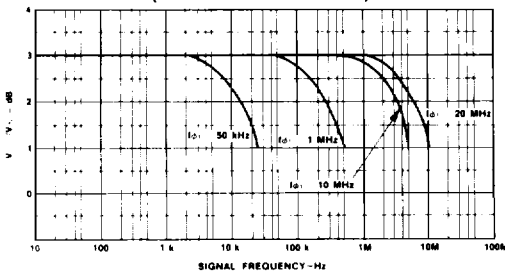

Fig. 1
- Signal Bandwidth is typically 1/3 to 1/2 of the sampling rate. See Fig. 1.